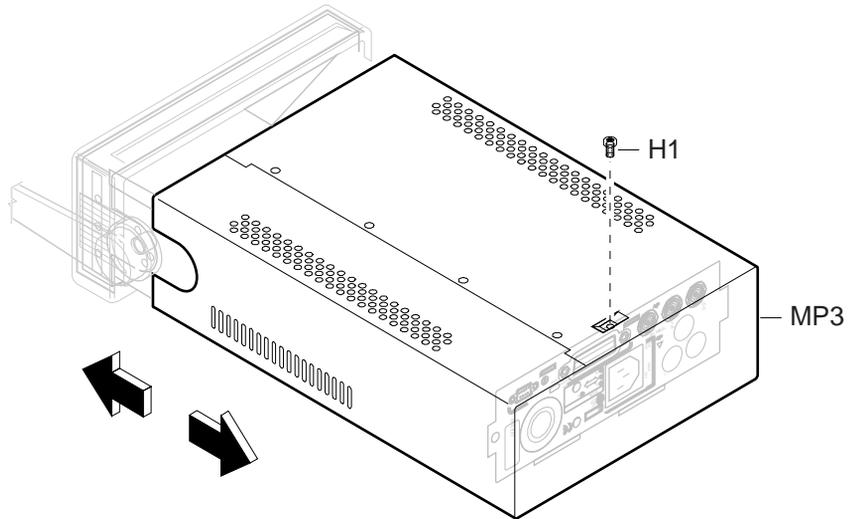

Figure 3-2. Bottom View for Cover Removal
- 3 Remove the screw (H1) located at the bottom near the rear of the cover (MP3) as shown in Figure 3-2.**